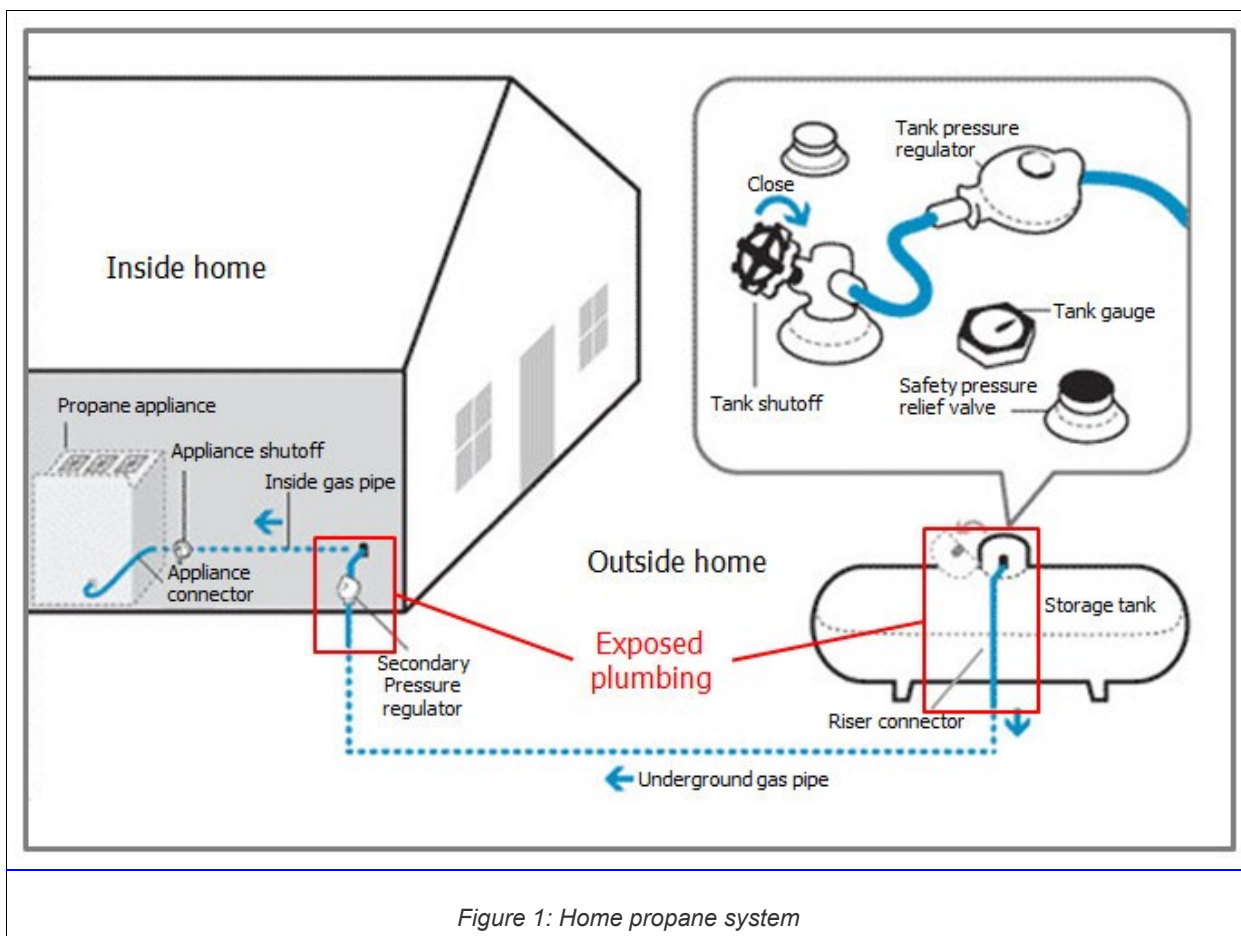

Figure 1: Home propane system
Propane is an odorless volatile gas that can be liquified and stored at moderate pressure to provide a safe source of heating fuel, especially for locations that do not have access to natural gas infrastructure. Because it is odorless like natural gas, a separate odorant, ethyl mercaptan, is added to commercial supplies to allow for easy detection. Figure 1 shows a typical installation of a home propane system. The steel storage tank holds the liquified gas with vaporized gas filling the empty space above the liquid. Tanks can be located above ground or buried/mounded. The pressure of the gas in the tank varies between 10-200 psi (pounds/square inch) depending on the outside ambient temperature (propane vaporizes at -44°F), so a pressure regulator (first stage) is installed at the outlet of the tank to stabilize the pressure at approximately 10 psi. The propane is then routed underground to the outside of the house where it feeds into another regulator (secondary stage) that insures a stable pressure feeding into the house of
- The problem for propane use on the summit is that it must not only be safe under the normal conditions of summer use, but also under the extreme conditions of a sierra winter with its massive snowfall. It is the exposed plumbing, shown in red in Figure 1, that is vulnerable to the massive weight and glacial motion of the snow. It must be of sufficient strength and adequately protected to withstand the power of the snow. Anyone living on the summit who has seen a deck railing damaged on a cabin during winter knows the power of 10-20 feet of snow. In March and April of 2011 there was up to 25 feet of snow on many cabins and propane installations, and the number of propane system failures attested to the destructive power of that snow. It became clear that many of the systems on the summit were not safe under these extreme conditions. The question left for residents and safety officials was how to make the systems safe even under these conditions.